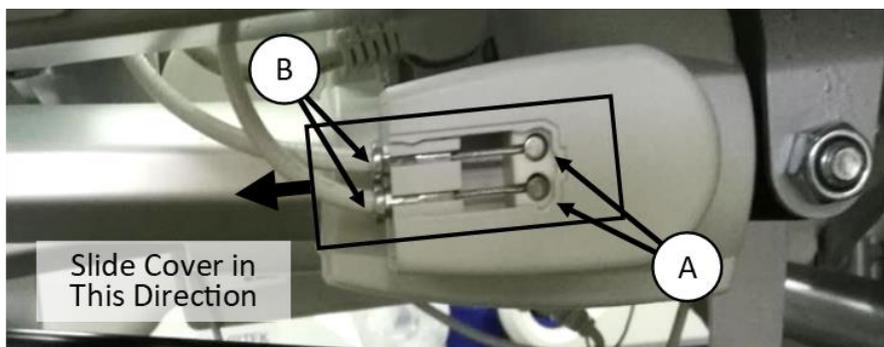

Figure 19: Backrest Actuator CPR release cables connection
- d) Using a small flat screwdriver or similar, slide open actuator CPR release cable cover in direction of arrow as shown on figure 19 and remove inner cable ball end (A) followed by cable outer housing (B).
- Remove cable from backrest actuator by sliding the cover (A) off the CPR cable housing on the side of the actuator. Lift the ball end of the cable (B) out of the housing and remove the CPR cable – refer subsection 25, figure 19.
- Insert CPR release cable outer into actuator cable recess followed by inner cable ball end and slide housing cover into position – refer subsection 25, figure 19.
- Feed the CPR release cable outer through the tensioning plate located just behind the release lever and loosely thread the outer cable end lock nut (B).
- Attach the inner cable loop to the CPR release lever and secure in position with a new Nyloc nut (A).
- Adjust the two lock nuts (B) on the CPR release cable outer to obtain satisfactory operation of the release mechanism.